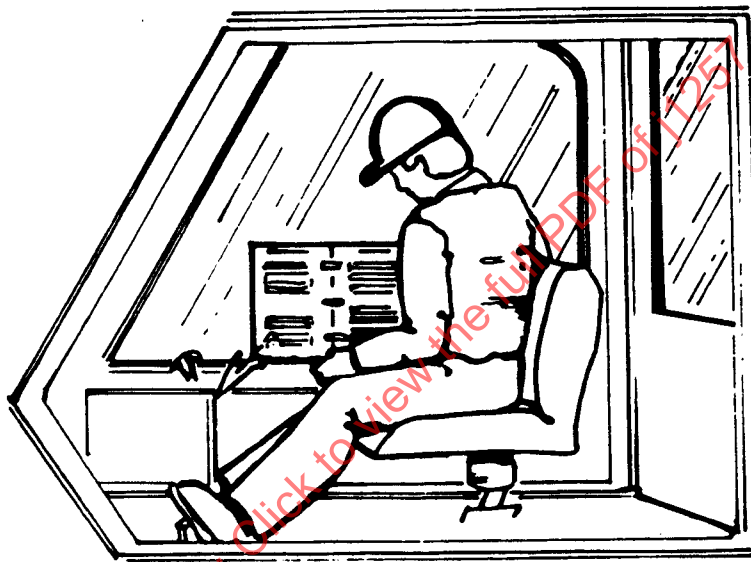
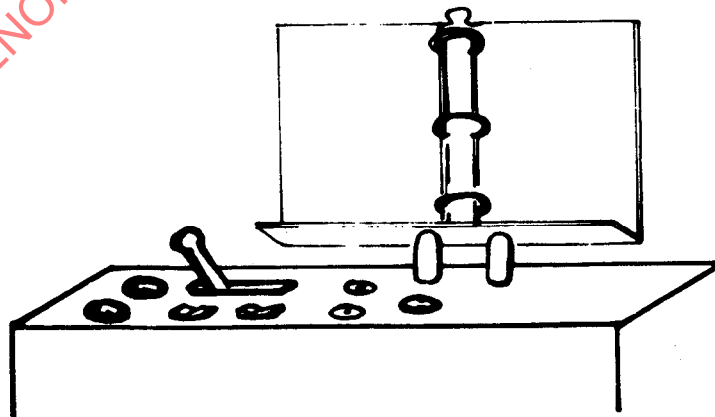

FIGURE A1—
FIGURE A2—
- 3.3 **Placement**—Operational configuration charts, and preferably the whole format package, shall be in the format hemisphere of the operator's visibility. See Figure A1 and Figure A2.
Figure A1 shows a location of the rating chart in a crane cab. Note that placement is in the front hemisphere in a location usable on most machines and accessible to the operator.
Figure A2 shows a method of fastening to the cab.